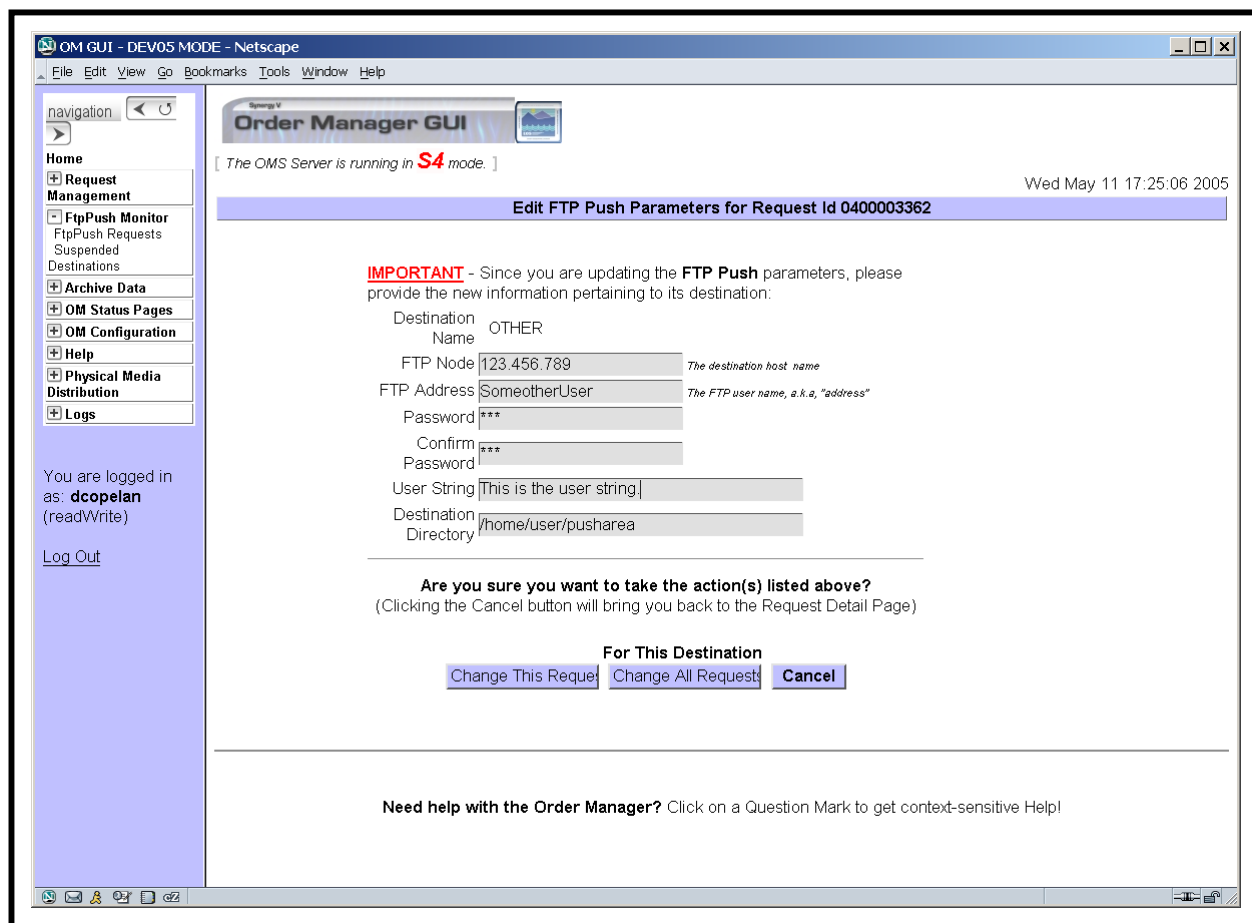

Figure 43. Edit FtpPush Parameters Page
- The **Edit FtpPush Parameters** page (Figure 43) is displayed.